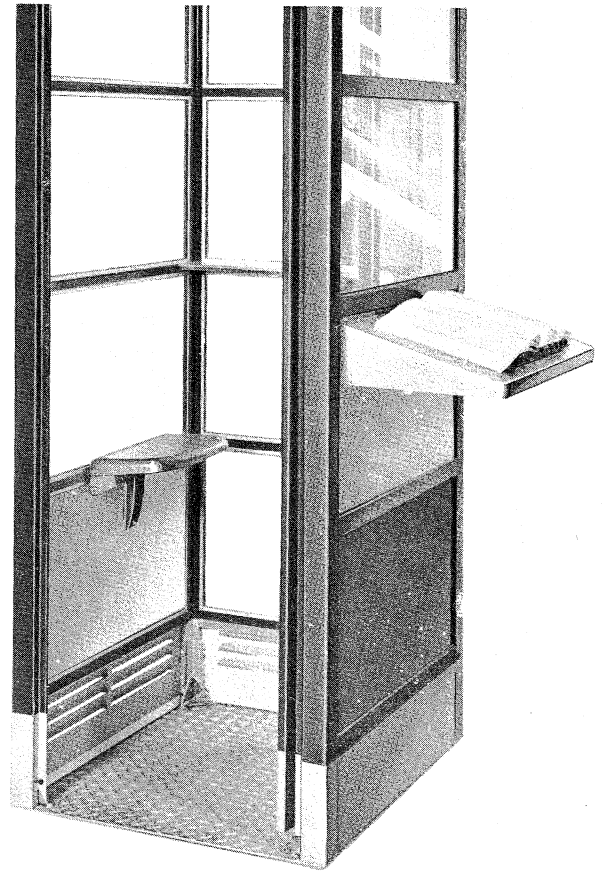

Fig. 11 – KS-16797, List 17 Shelf Installed
7.03 *KS-16797, List 17 directory rack* (Fig. 11), requires a *KS-16797, List 20 or List 120 mounting plate* installed in the next to bottom rear or side panel opening to accommodate the assembly of the list 17 directory rack. To install the mounting plate and list 17 directory rack, proceed as follows:
8. KS-16797, LIST 16 SEAT (FIG. 11)